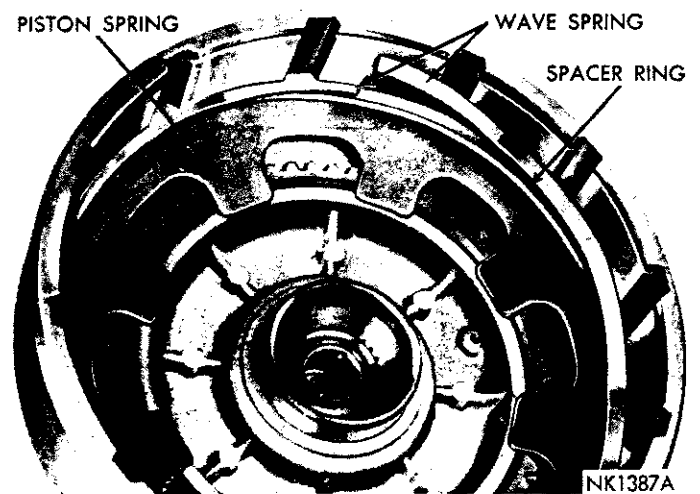
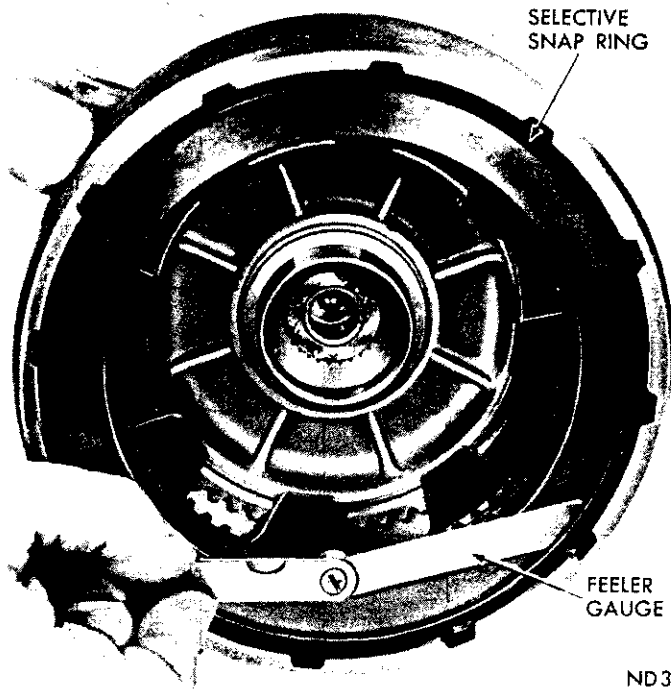
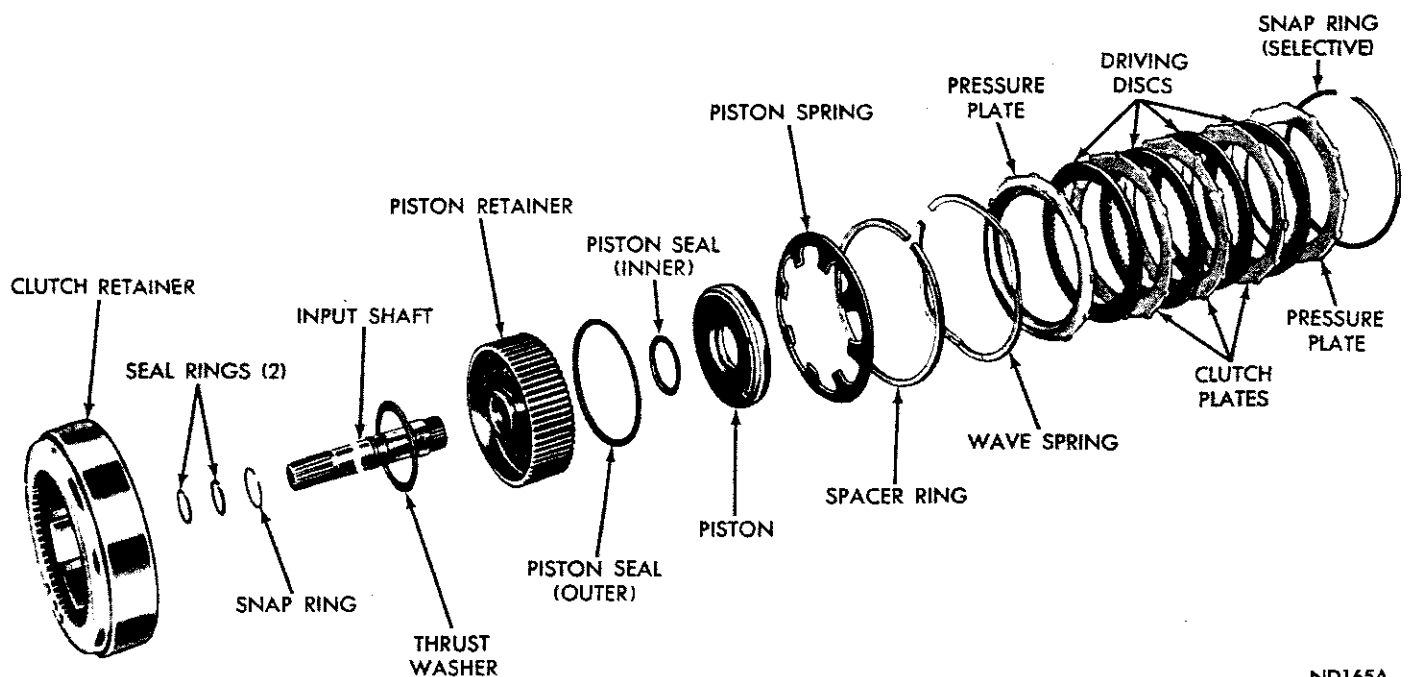

Fig. 66—Installing Rear Clutch Spring, Spacer Ring and Wave Spring
Fig. 67—Measuring Rear Clutch Plate Clearance
Fig. 68—Rear Clutch Disassembled (A-727)
(3) Place piston assembly in retainer and, with a twisting motion, seat piston in bottom of retainer.
(4) Place clutch piston spring and spacer ring on top of piston in clutch retainer, make sure spring and spacer ring are positioned in the retainer recess. Start one end of wave spring in retainer groove (Fig. 66),
(7) Measure rear clutch plate clearance by having an assistant press down firmly on outer pressure plate, then insert a feeler gauge between the plate and snap ring (Fig. 67). The clearance should be between .032-.055 inch. If not, install a snap ring of proper thickness to obtain specified clearance. Low limit clearance is desirable. **Rear clutch plate clear-**
Figure 68 shows a disassembled view of the rear
Inspect interlocking seal rings (Fig. 68) on input shaft for wear or broken locks, make sure they turn freely in the grooves. Do not remove rings unless conditions warrant. Inspect bushing in input shaft for wear or scores. Inspect rear clutch to front clutch thrust washer for wear. Washer thickness should be .061 to .063 inch, replace if necessary.
(2) Lubricate and install inner and outer seal rings on clutch piston. Make sure lip of seals face toward head of clutch retainer, and are properly seated in piston grooves (Fig. 68).
(3) Place piston assembly in retainer and, with a twisting motion, seat piston in bottom of the retainer.
(4) Position clutch retainer over piston retainer splines and support the assembly so clutch retainer remains in place.
(5) Place clutch piston spring and spacer ring on top of piston in clutch retainer, make sure spring and spacer ring are positioned in the retainer recess. Start one end of wave spring in retainer groove (Fig. 66), then progressively push or tap spring into place making sure it is fully seated in the groove.
(6) Install inner pressure plate in clutch retainer with raised portion of plate resting on the spring.
(7) Lubricate all clutch plates, install one lined plate followed by a steel plate until all plates are installed. Install outer pressure plate and selective snap ring.
(8) Measure rear clutch plate clearance by having an assistant press downward firmly on outer pressure plate, then insert a feeler gauge between the plate and snap ring (Fig. 67). The clearance should be between .025 to .045 inch. If not, install a snap ring of proper thickness to obtain specified clearance. Low limit clearance is desirable. **Rear clutch plate clearance is very important in obtaining proper clutch operation. The clearance can be adjusted by the use of various thickness outer snap rings. Snap rings are available in .060-.062, .074-.076, .088-.090 and .106-.108 inch thickness.**